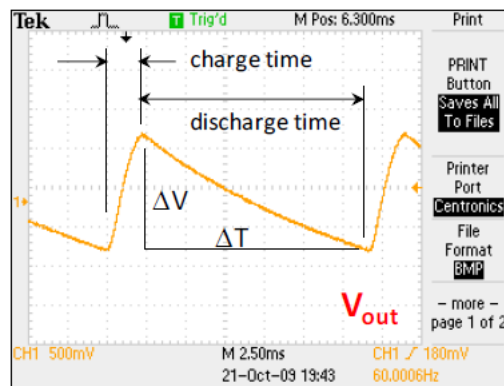

Figure 4-8 Filter Capacitor Parameters
- a. From the output voltage waveform, measure and record: a) capacitor charge and discharge times, and b) slope ($\frac{\Delta V_{out}}{\Delta T}$) of the discharge portion of the waveform. See Figure 4-8.